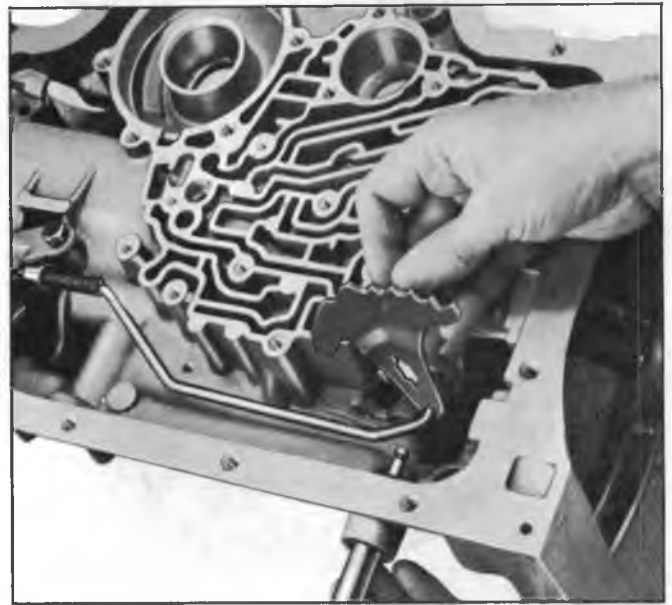

Fig. 134T--Installing Manual Shaft to Case
- d. Install manual shaft through case and detent lever (fig. 134T).